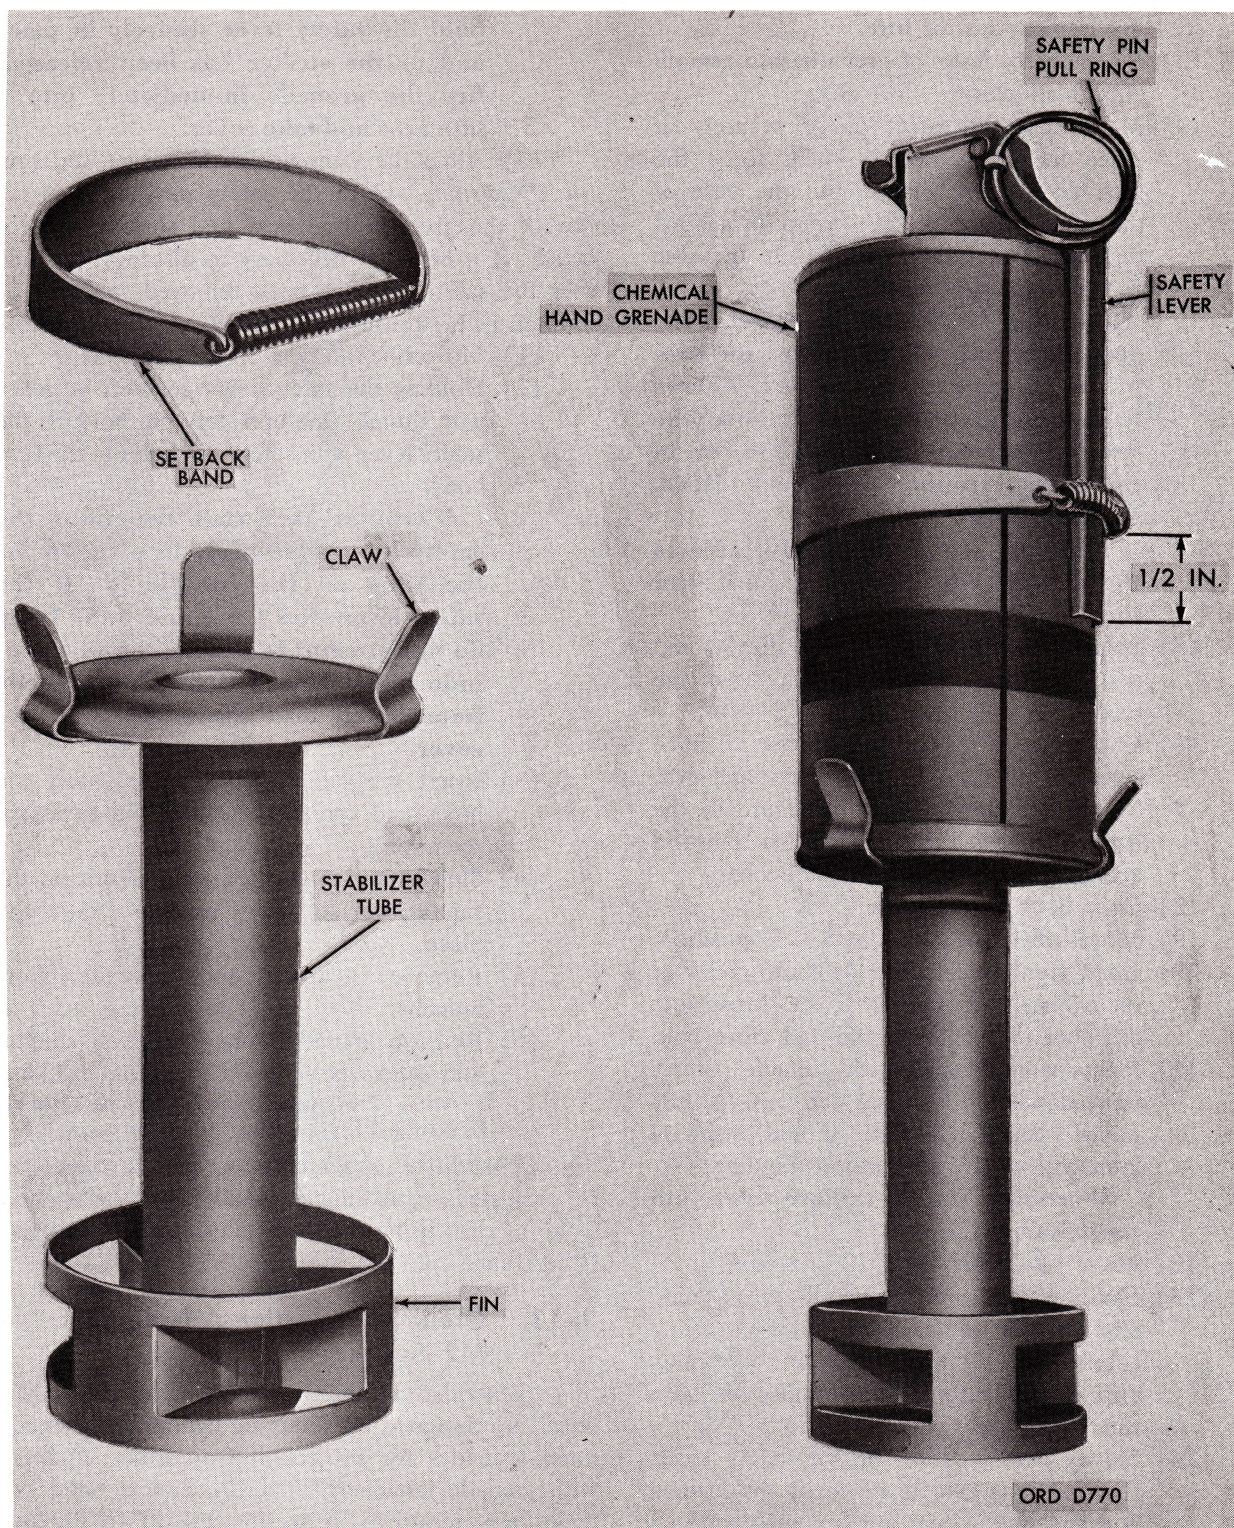

Figure 3-8. Adapter, grenade projection, M2A1 with chemical hand grenade.
a. General. Grenade projection adapters M2-series are designed for adapting cylindrical chemical hand grenades for projection from rifles equipped with grenade launchers. These chemical hand grenades are described in section IV. Two different models of the projection adapter M2-series are available: the M2, and the M2A1 (fig. 3-8). The
Place the band around the grenade with the coil spring centered on the safety lever 1/2 inch from the end of the safety lever, as shown in figure 3-8.